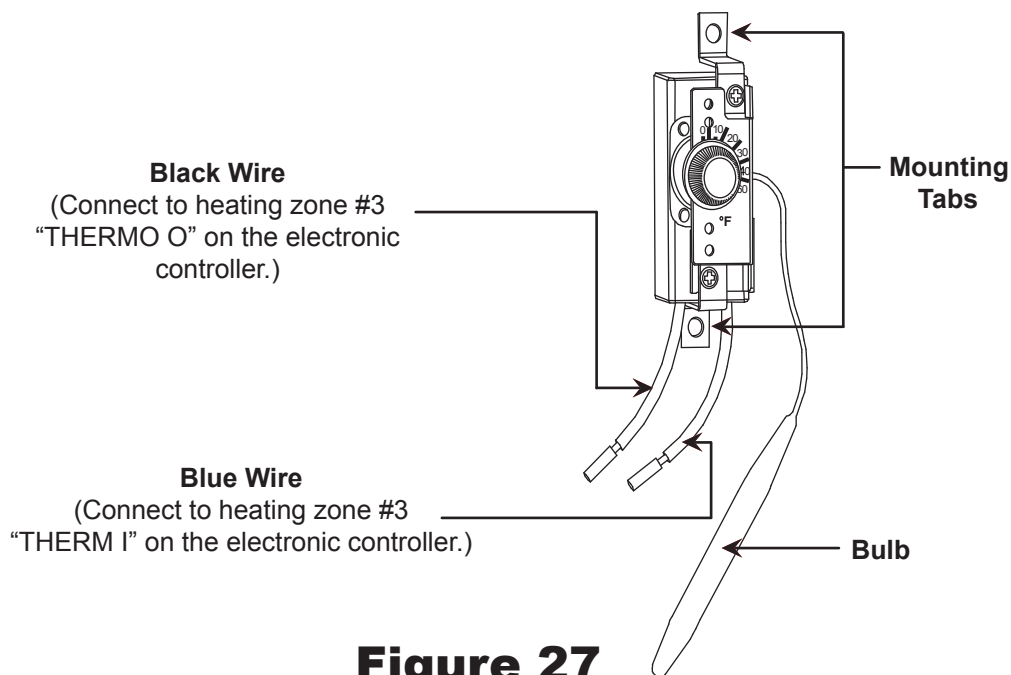

Figure 27
Typically only the bulb of the thermostat needs to be physically mounted in the area requiring heat (usually in close proximity to the domestic water pump). Reference Figure 27.
The selected mounting location should allow for easy operator access. Reference Figure 27.
3. Connect both wires to the appropriate leads of the thermostat. Reference Figure 27.
2. Once the thermostat has been completely wired, permanently mount the thermostat in place. Reference Figure 27.